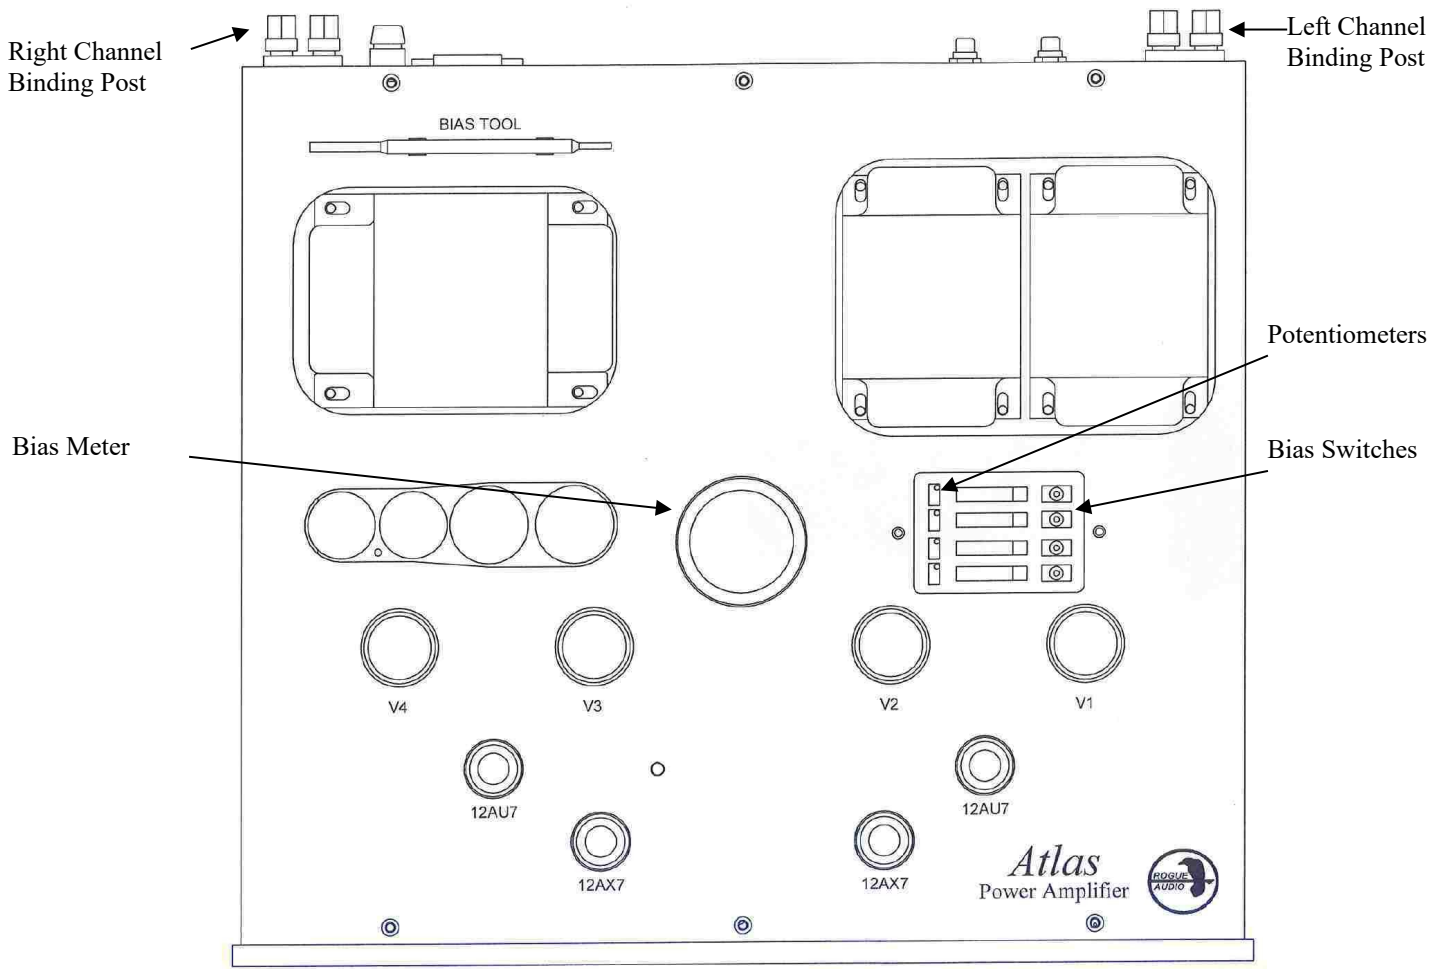

Figure 1 Tube and Deck Layout
3. Insert the tubes into the proper locations. Refer to Fig. 1 The output tubes will be marked per the figure. ( ie V1, V2 etc.)
- 5) The bias tool is snap attached to the top deck cover behind the power transformer. Refer to Figure 1.